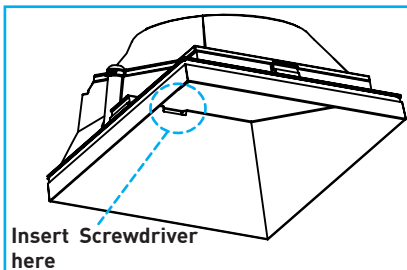

Fig.63
- Grasp baffle using soft gloves or with clean soft cloth and remove by pulling down or inserting small flat head screwdriver to wallwash baffles and carefully prying down as shown in *Fig.63*.
- A. Remove baffle by pulling down or inserting small flat head screwdriver to wallwash baffles and carefully prying down as shown in *Fig.63*. Remove optic (see E.1 on page 12).